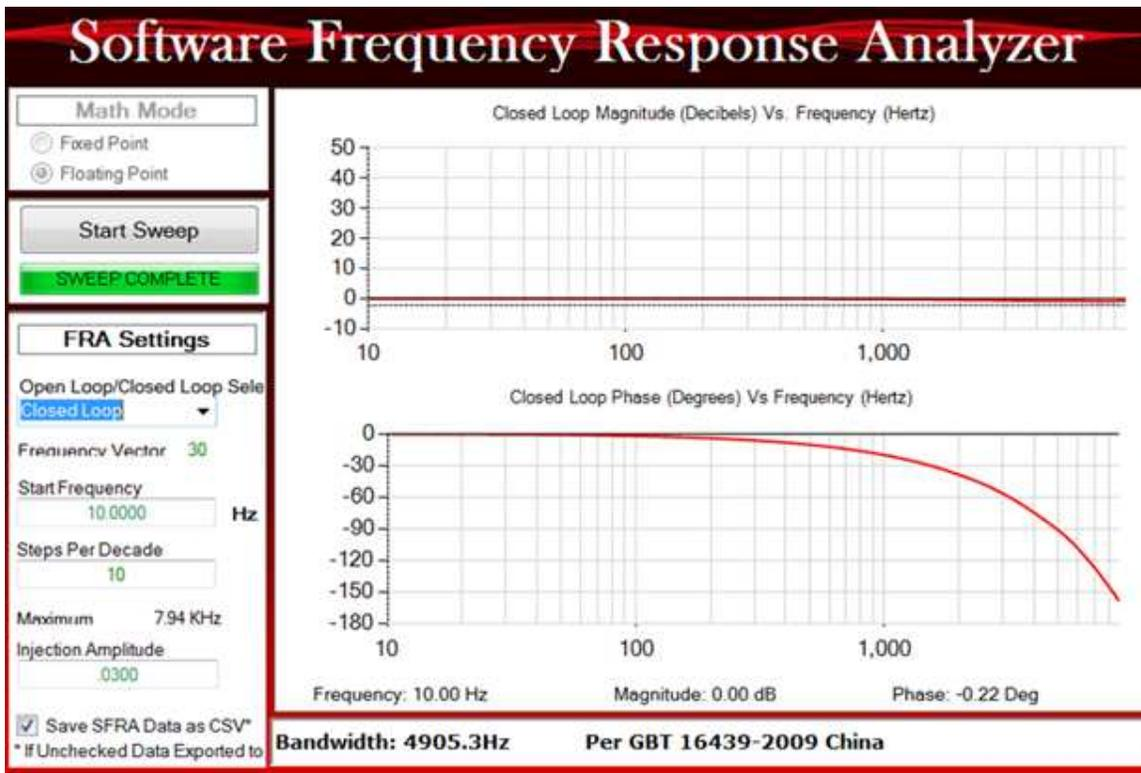
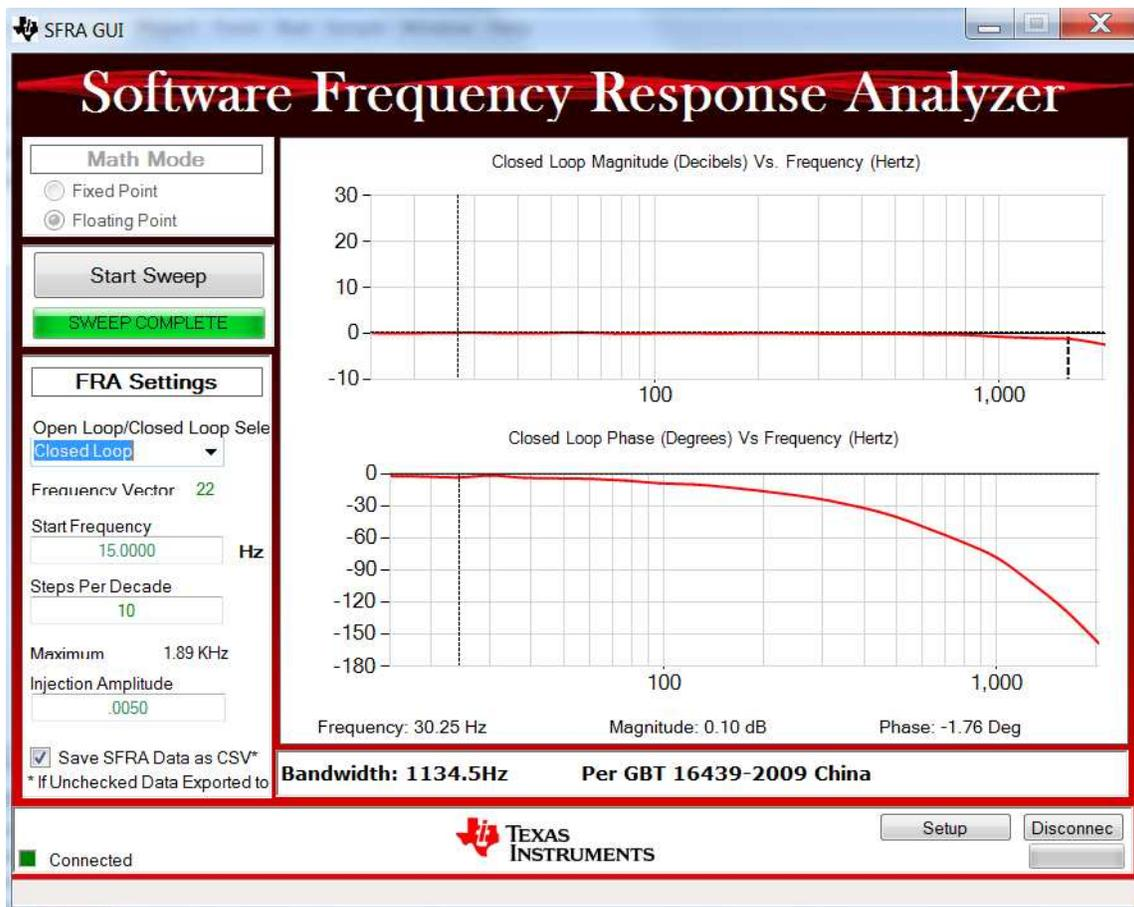

Figure 36. SFRA Open Loop Bode Plots of the Current Loop Showing Magnitude and Phase Angle
Figure 37. SFRA Closed Loop Bode Plots of the Current Loop Showing Magnitude and Phase Angle
6. When the frequency sweep is fully done, it will compute the Bode plot and display the results as shown in Figure 36 and Figure 37.